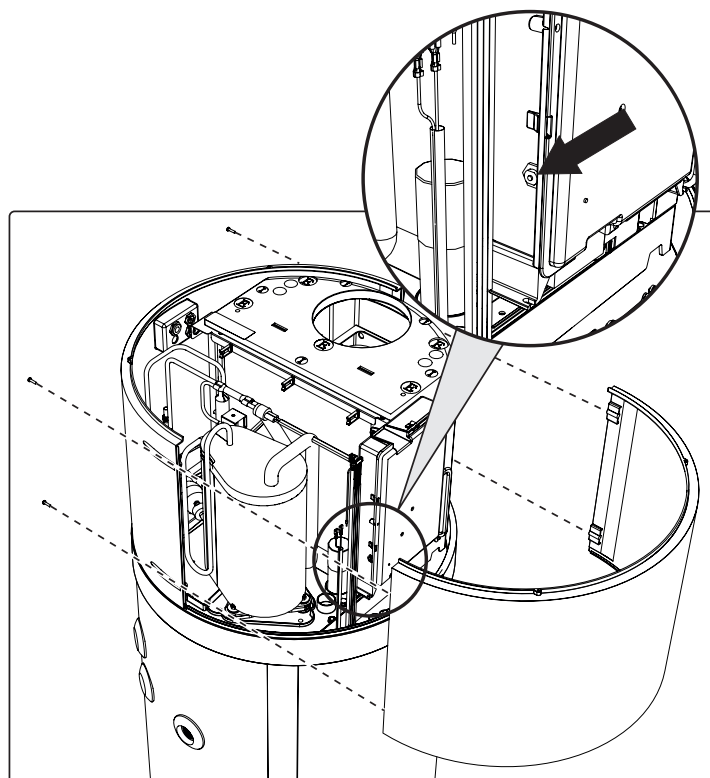

fig. 37- Front panel removal
- Remove the front panel and manually reset the tripped safety thermostat (fig. 37). In case of intervention, the central pin of the thermostat comes out by about 2 mm.